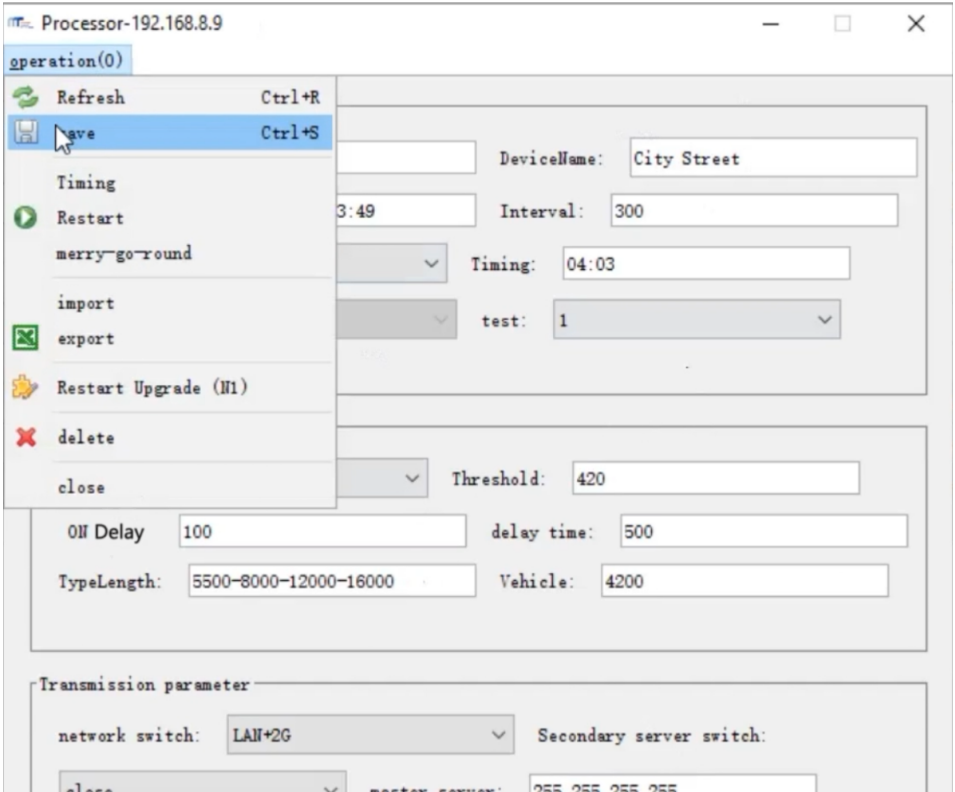

Figure 3-8: Intelligent Processor Save
2. Click the "Operation" button on the toolbar, and the interface will appear as shown in Figure 3-8. You can make corresponding configuration changes to the processor.